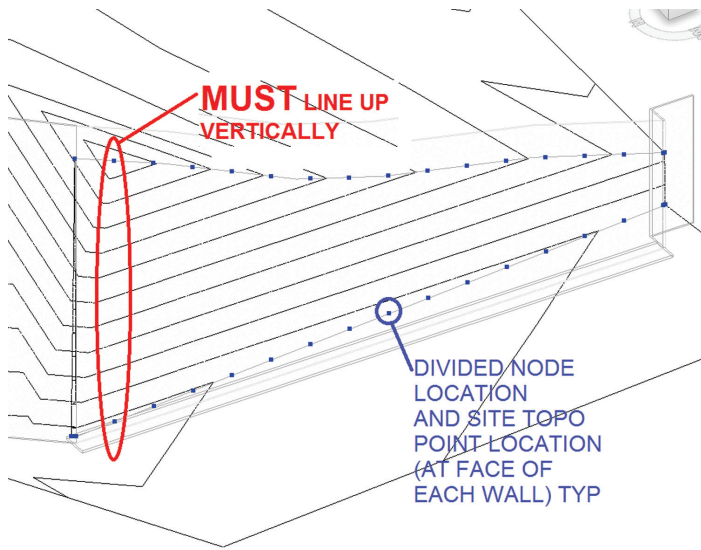

Figure 12: Divided node and topo point locations
- To ensure that the divided nodes on each curve lines up horizontally you will need to locate the nodes via the "intersect" divided node command. To use this, you have to draw gridlines (or named reference lines) at equal plan spacing. A good rule of thumb is to make at least 12 divisions/gridlines. Once the gridlines are placed at equal spacing, select each curve separately and select the divide path command and select intersect and select the gridlines. The final divided node location should look similar to Figure 12.